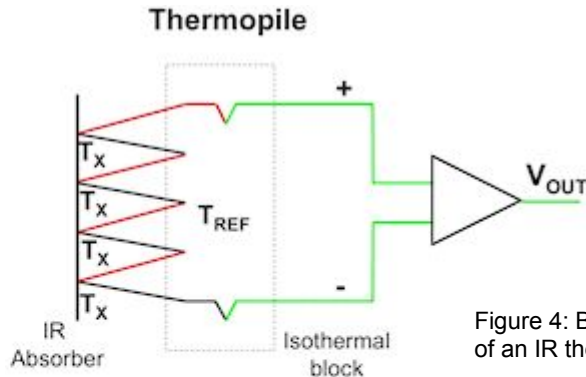

Figure 4: Basic design of an IR thermopile
- Karaki, Habib. “Figure 4”, 27 February 2014, <http://www.sensorsmag.com/components/demystifying-thermopile-ir-temp-sensors> , Accessed: 23 October 2017